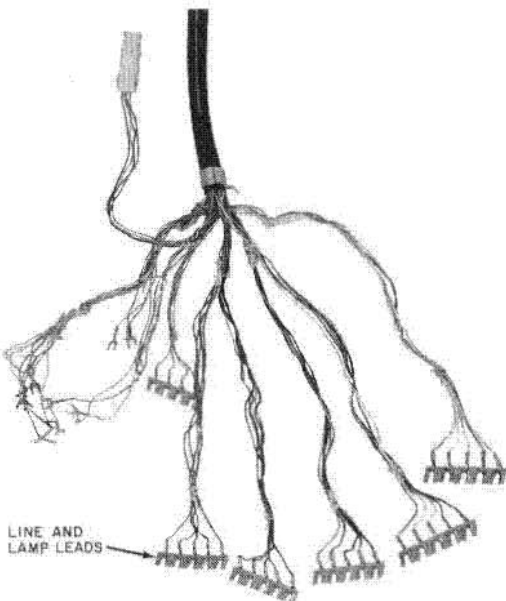

Fig. 11—Mounting Cord Used With 636-Type Key
**3.08** Still later manufactured cords, designed for use with 636-type key assemblies, feature slotted wafer sections for each line appearance (Fig. 11). This allows easy arrangement of lines to pickup buttons.